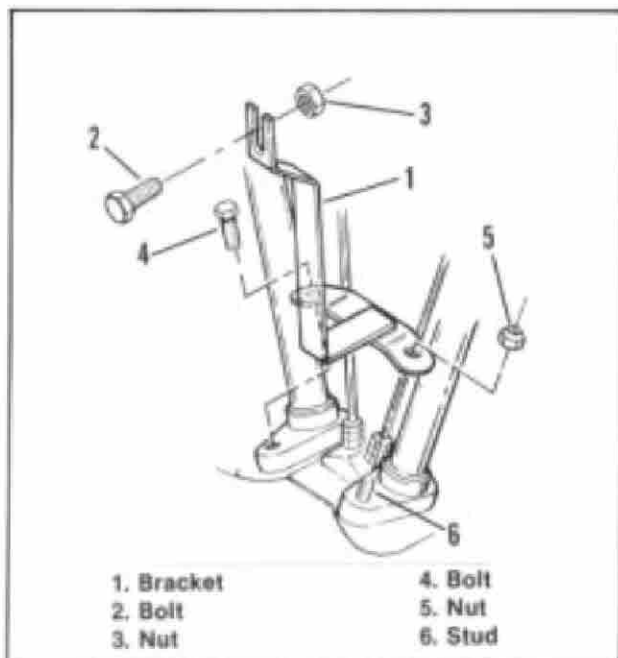

Figure 2. Bracket Mounting — XL Models
A. XL Vehicles — See Figure 2. Remove nut (5) and bolt (4) at the tappet guide blocks. Place bracket (1) over stud (6) and align holes at adjacent tappet guide block. Thread nut (5) on stud (6). Insert bolt (4) through bracket (1), through tappet guide block mounting hole and thread into tapped hole in crankcase. Insert bolt (2) through backing plate, and slotted end of bracket (1). Thread nut (3) on bolt (2). Tighten bolt (4), nut (5) and nut (3) to a torque of 8-10 ft-lbs.